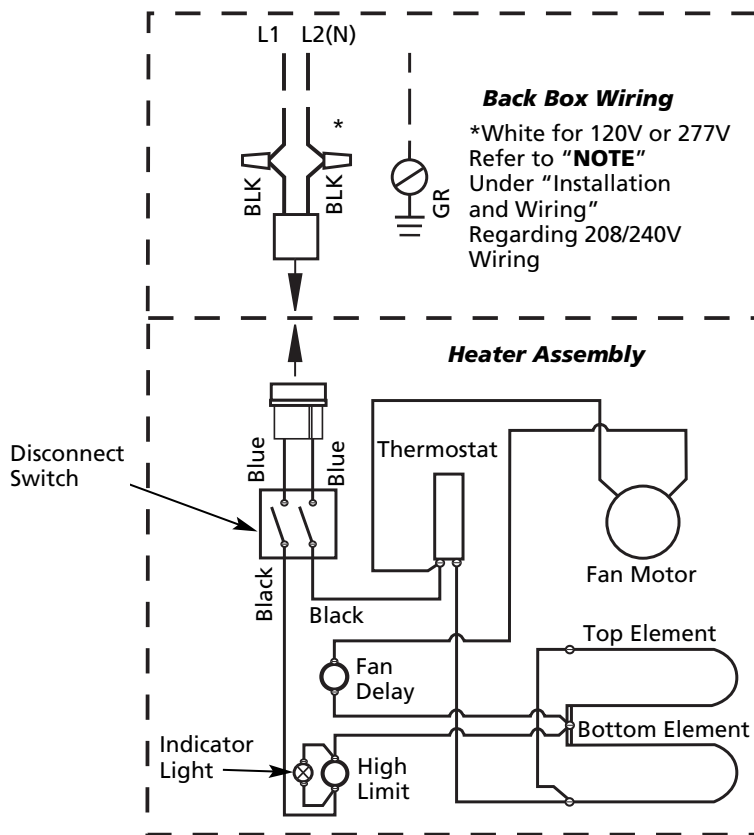

Figure 4
1. Following wiring diagram (Figure 4) connect supply wiring to heater lead-wires in back box.
**NOTE:** For 120 and 277 volt heaters connect the white neutral supply lead to the heaters white pigtail lead, and connect the black supply lead to the heater black pigtail lead. For **208** and **240 volt** heaters change the color of the heaters white pigtail lead to black by wrapping with black electrical tape. (Most electrical codes require the supply leads to be connected to black leads.) Then connect the two black supply leads to the two black receptacle leads (See Figure 4).
4. Fit heater/fan assembly into back box and secure in place with (2) screws provided through the center slots in the fan assembly.